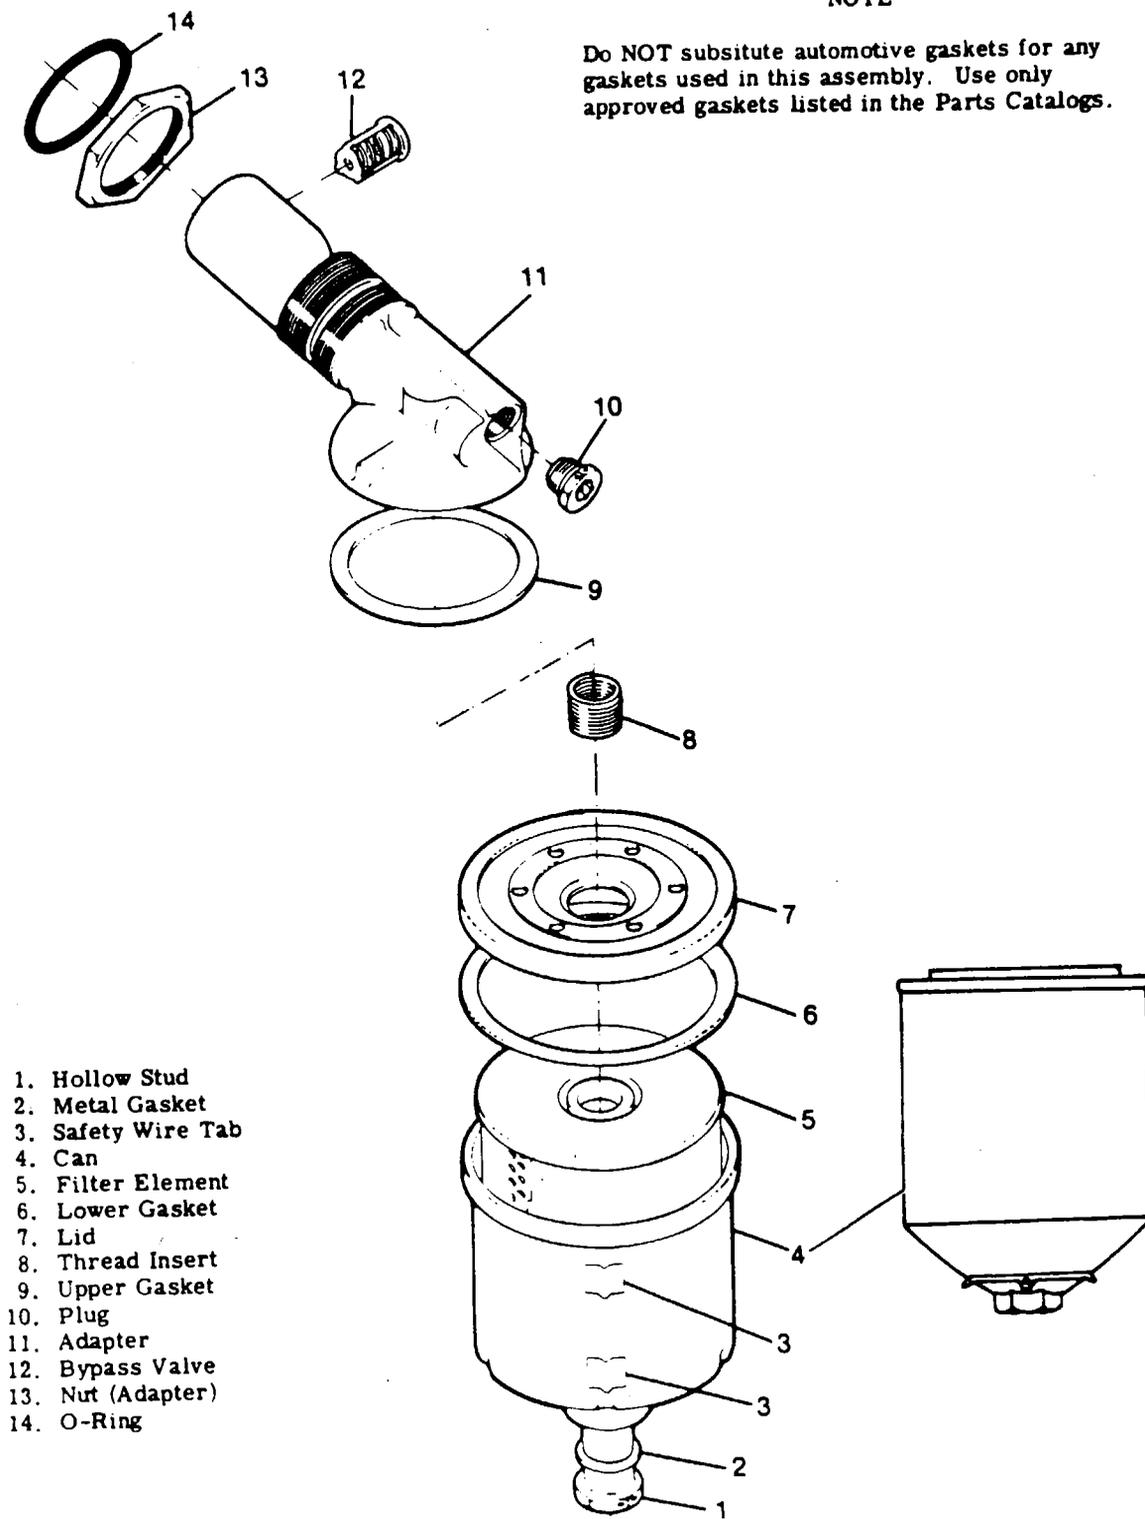

Figure 12-4. Full-Flow Oil Filter
12-36. REMOVAL AND INSTALLATION (Filter Element) (See figure 12-4).
12-36A. REMOVAL AND INSTALLATION (Spin-On Filter) (See figure 12-4).
a. Assemble adapter nut (14) and new O-ring (15) on adapter (11) in sequence illustrated in figure 12-4.
c. Apply anti-seize compound sparingly to the adapter threads, then simultaneously screw adapter and adapter nut into engine until O-ring seats against engine boss without turning adapter nut (14). Rotate adapter to approximate angular position noted during removal. Do not tighten adapter nut at this time.